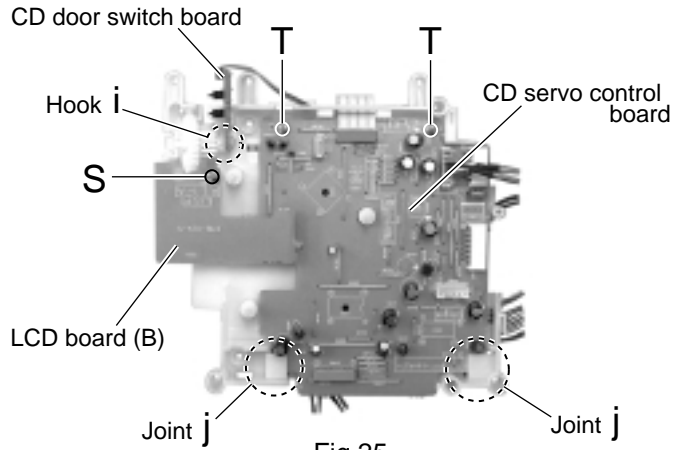

Fig.25
■ **Removing the LED board (B) (See Fig.25)**
1. Remove the screw **S** attaching the LED board (B).
■ **Removing the CD door switch board (See Fig.25)**
■ **Removing the CD servo control board (See Fig.25)**
- Prior to performing the following procedure, remove the CD mechanism assembly and the LED board (B).